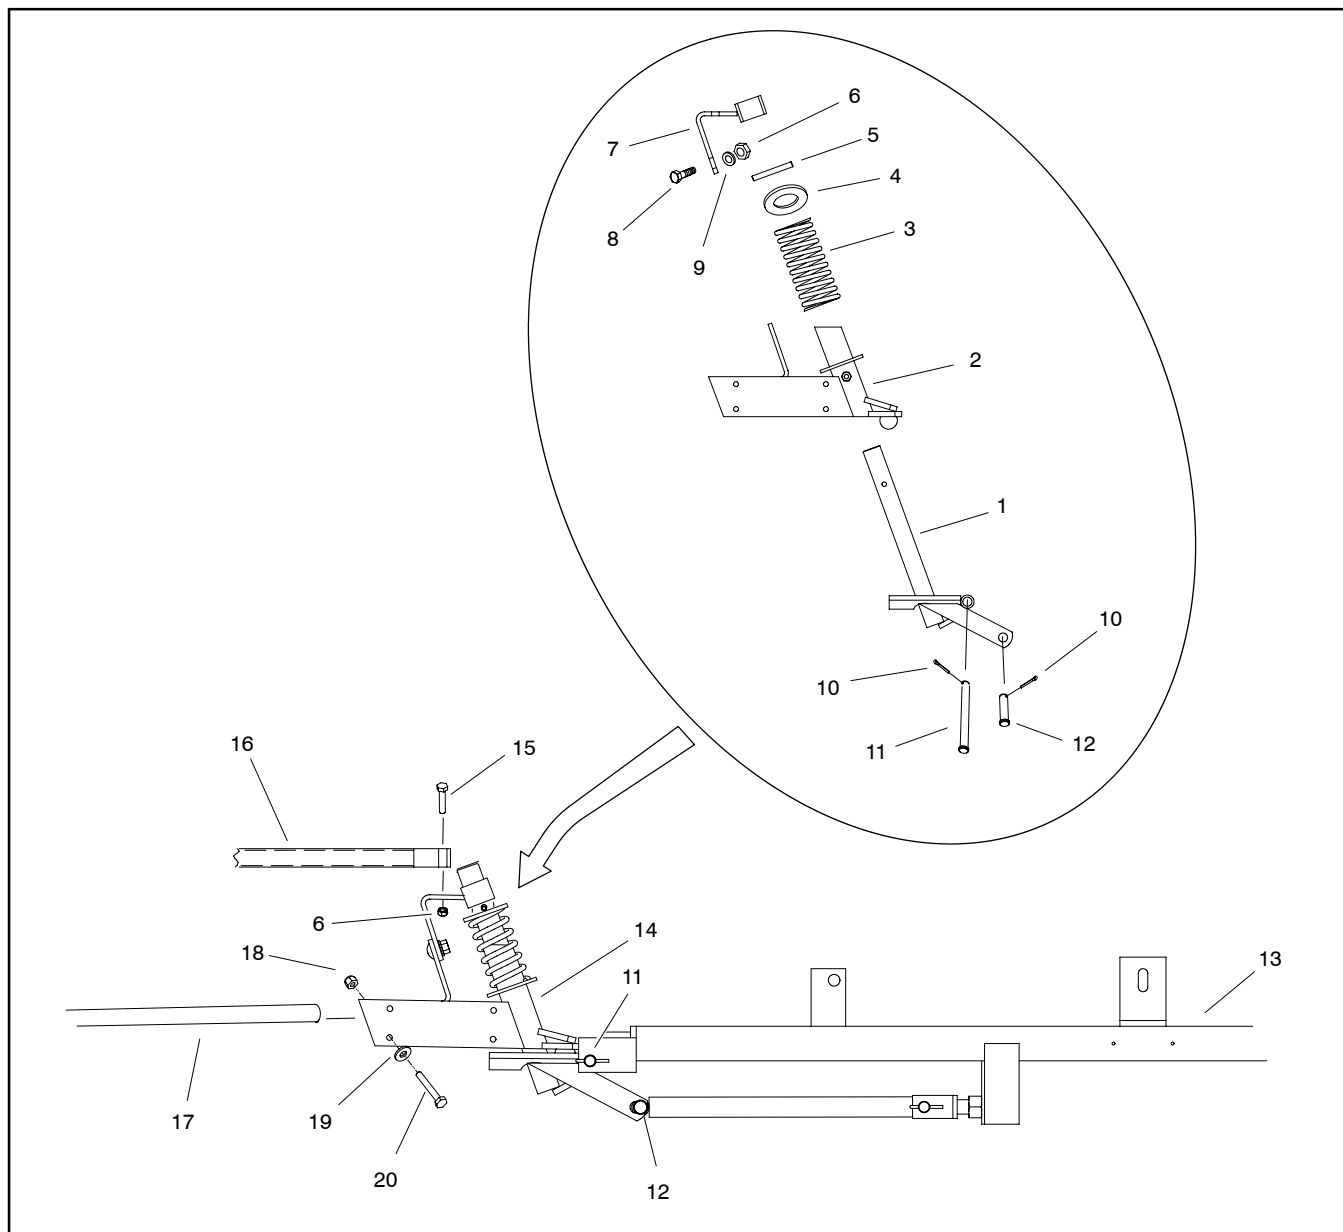

Figure 44
Disassembly (Fig. 44)
5. Complete disassembly as required using Figures 44 and 45 as guides.
Assembly (Fig. 44)
1. Assemble breakaway pivot using Figures 44 and 45 as guides.